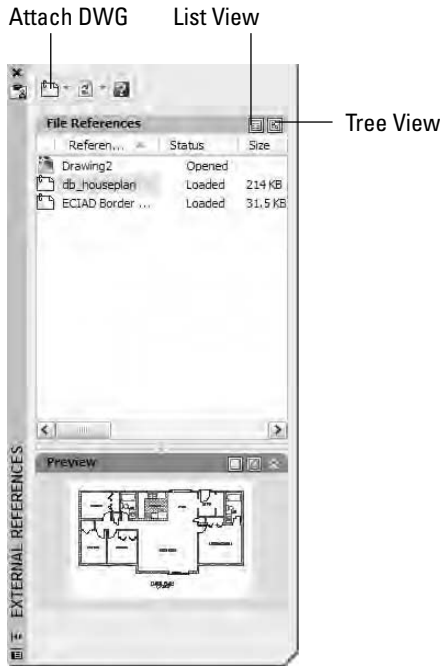

Figure 14-11:
3. Click **Attach DWG** (see Figure 14-11) and locate the drawing file you want to attach.
- ✓ **List of external references:** You can change between the List view and Tree view of your drawing's external references just by clicking the appropriate button at the top of the palette (see Figure 14-11). You can resize the columns by dragging the column dividers or re-sort the list by clicking the column header names, just as in Windows Explorer.